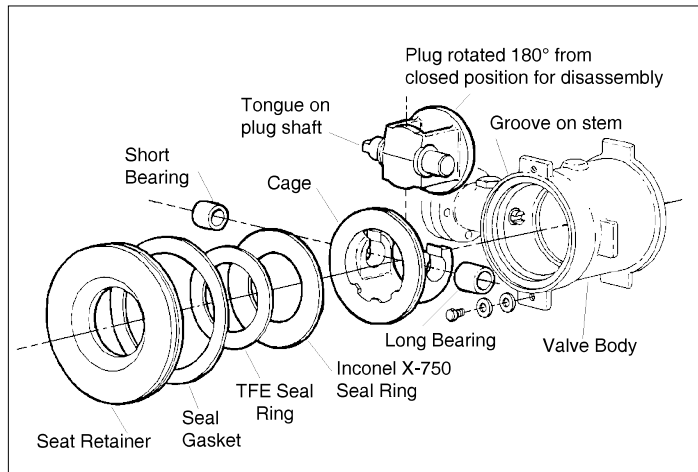

FIGURE 4: Quick Change Trim Parts
2. If at the body assembly (BA) level, ensure that the stem subassembly (7) is pulled back into the bonnet of the body (1) so that the stem (7) is in contact with the retainer sleeve subassembly (8).
3. Place plug (6) into cage (2). The orientation must be such that the short stub shaft of the plug (6) with the machined tongue extends through the flat side of the cage (2) toward the stem (7). The plug (6) must be rotated 135° to 180° open before the plug (6) stub shafts will slip into the cage's (2) bearing (4) (5) slots. See figures 4 and 5.